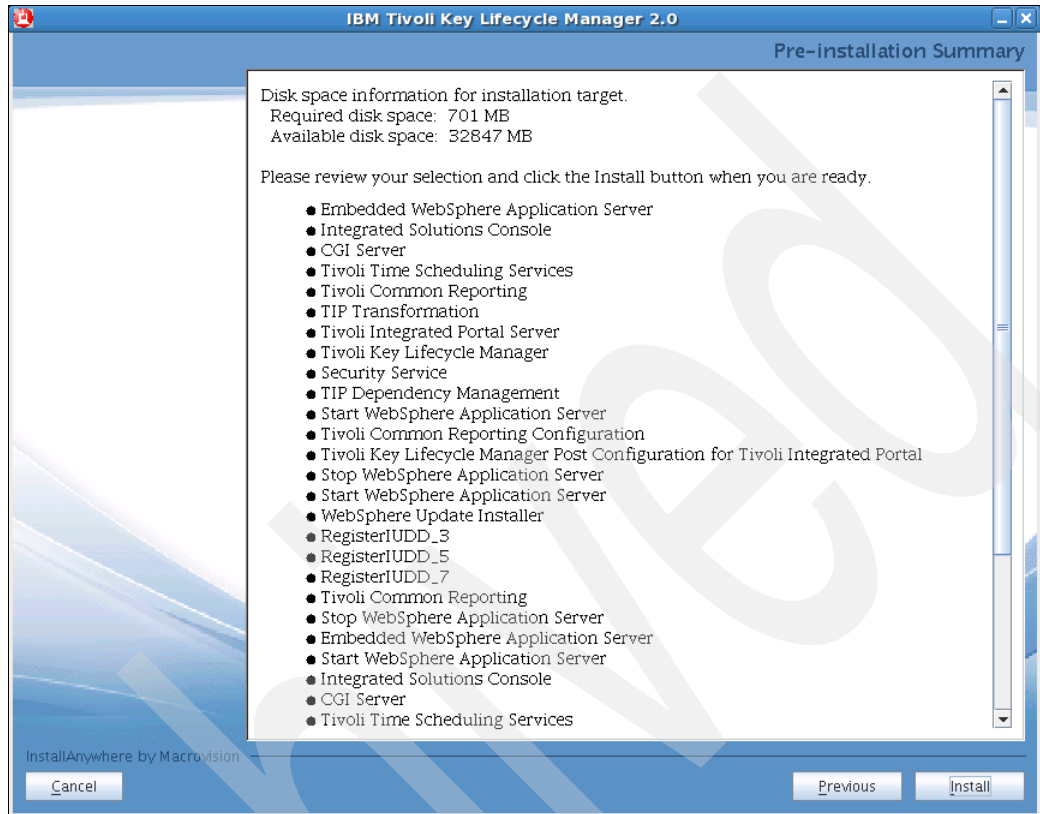

Figure 7-18 Pre-installation summary
21. The Pre-Installation Summary panel (Figure 7-18) shows disk space requirements and a list of all applications that will be installed. If everything is correct, click **Install**. This begins the installation of the Tivoli Integrated Portal.